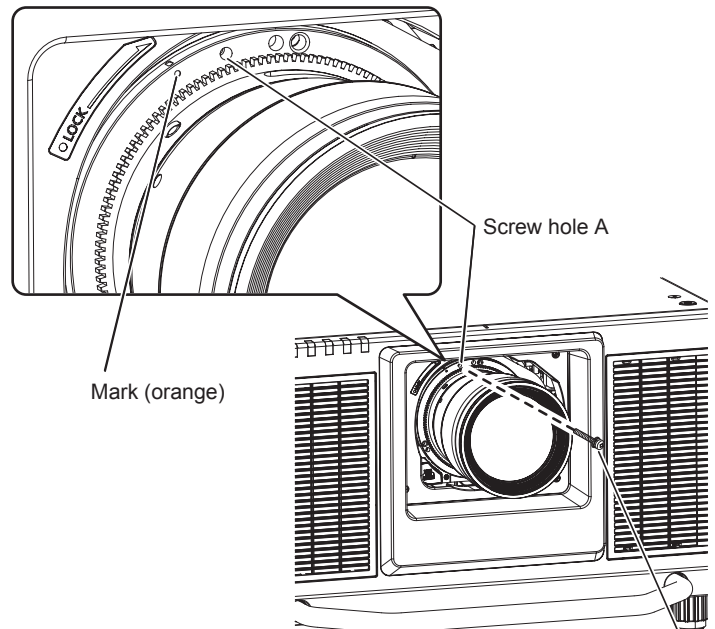

Fig. 4
4) Secure the projection lens with the supplied lens fixing screw. (Fig. 4)